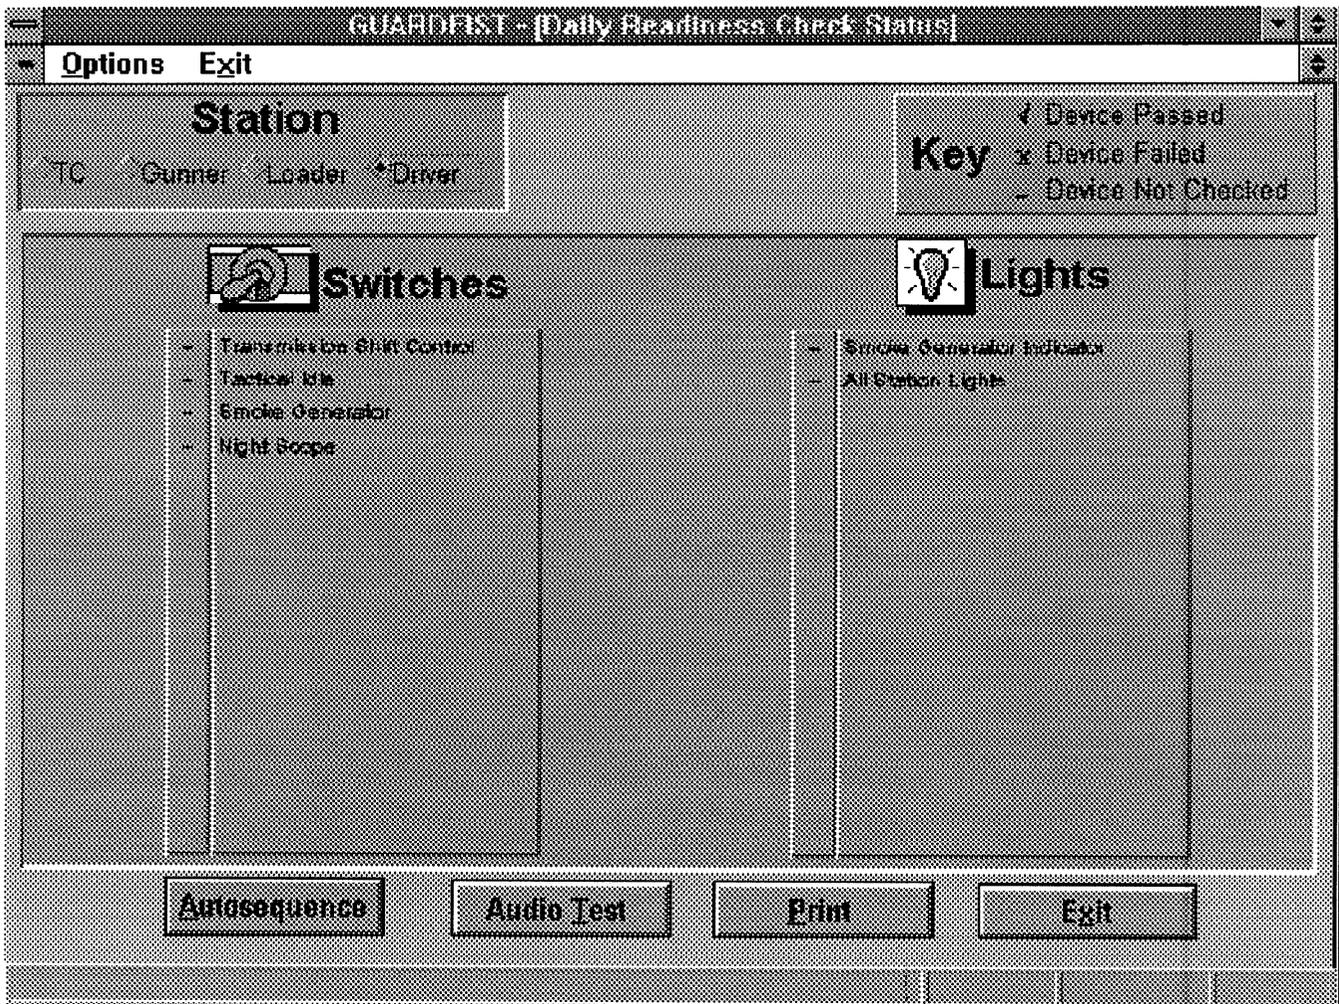

Figure 2-93. Driver Station Daily Readiness Check Status Screen
- (d) Driver Station Daily Readiness Check Status Screen, Figure 2-93:
- (3) To print the Daily Readiness Check Status Screen, click on the Print button or select Print from the pull-down Options menu.
- (4) To conduct the DRC on a group or group of crew station devices, at any Daily Readiness Check Status Screen, click on the Autosequence button or select Autosequence from the pull-down Options menu. The system displays the Autosequence Screen described in a. above.
- (5) To perform a DRC on a device in a crew station other than the one displayed, click on the radio button beside the crew station. The Daily Readiness Check Status Screen for that station displays.
- (6) To exit the Daily Readiness Check Screen and return to the AFIST Main Screen, click on the Exit button or select Exit from the Menu bar.